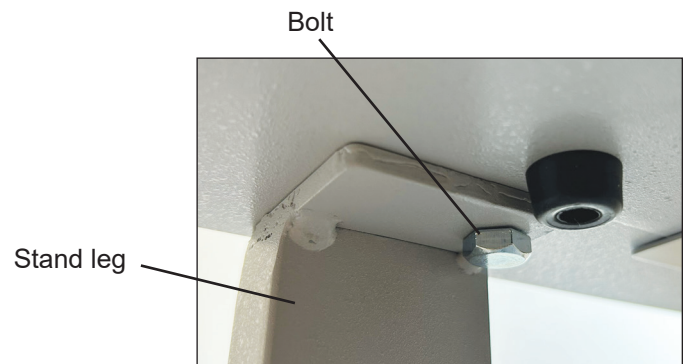

Fig. 6
5. Secure the cutter base to the stand with the remaining four bolts. (Fig. 6)